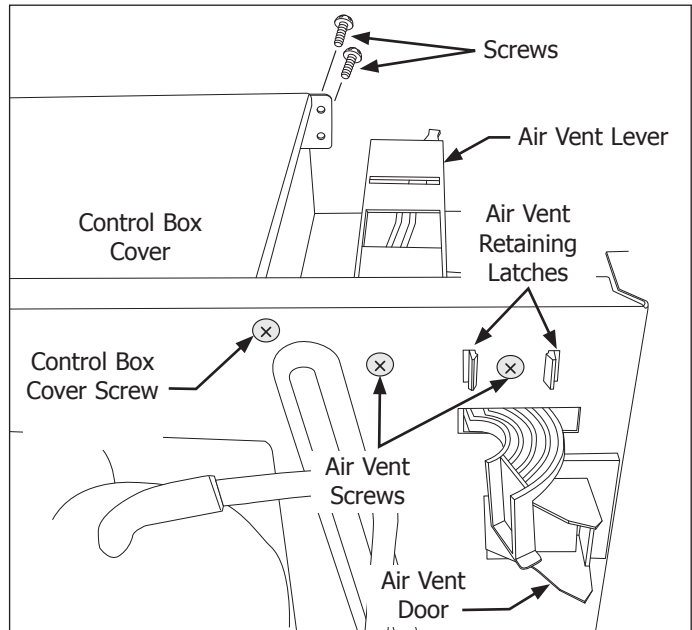

Figure 4-76.
3. Extract the two screws securing the air vent lever to the partition. (See Figure 4-76)
5. The air vent door is removed by releasing the retaining latches from the front of the partition and then pushing the air vent door through the partition until free from unit. (See Figure 4-76)
3. Extract the two screws at the front of the unit securing the control box cover to the control box. (See Figure 4-76)
4. Extract the screw from the compressor side of the partition securing the control box cover in place. (See Figure 4-76)